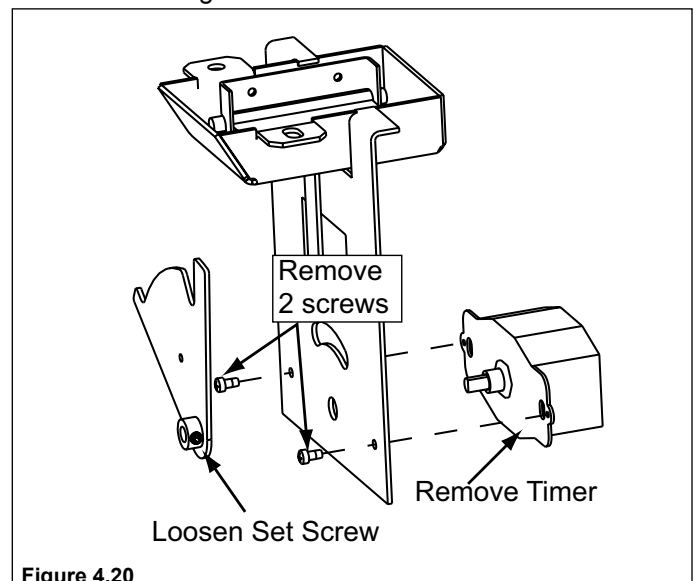

Figure 4.20
1. Loosen set screw on timer, remove 2 screws and remove timer. See Figure 4.20